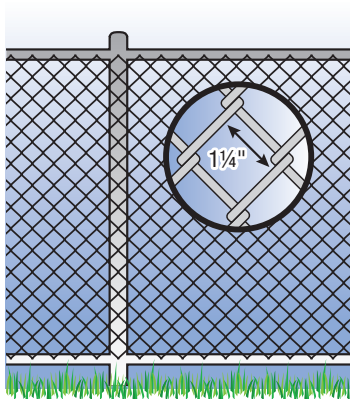

Figure 5
8. **Maximum mesh size for chain link fences** should not exceed 1¼ inch square, unless the fence is provided with slats fastened at the top or the bottom that reduce the openings to no more than 1¾ inches (figures 5 and 6).